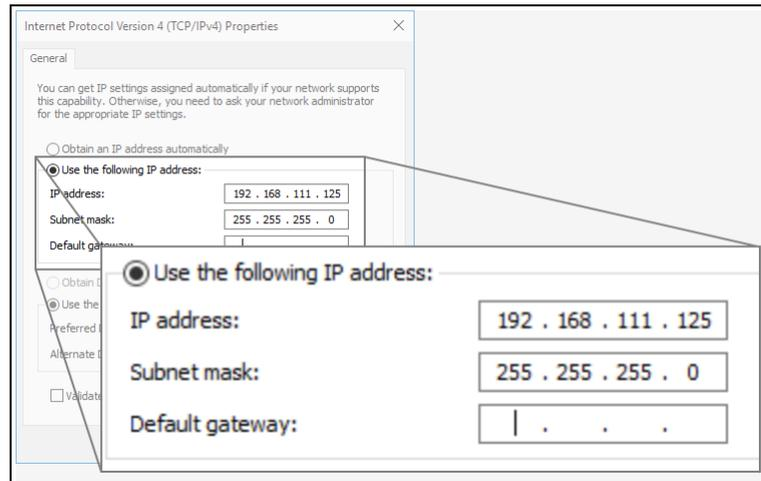

Figure 68: Changed Internet Protocol Version 4 (TCP/IPv4) Properties dialog box
11. In the **IP Address** text box, enter an IP Address that is **in the same subnet range but a DIFFERENT IP Address** than the Z9-P or Z9-PE or all other units in the network. Figure 68